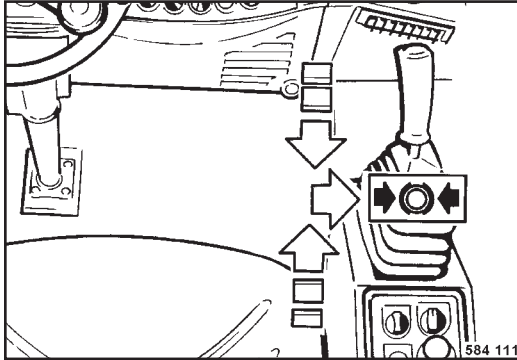

Fig. 167
- Unlock the travel lever (Fig. 167) by pushing it to the left, but do not actuate it to position "I" or "II".